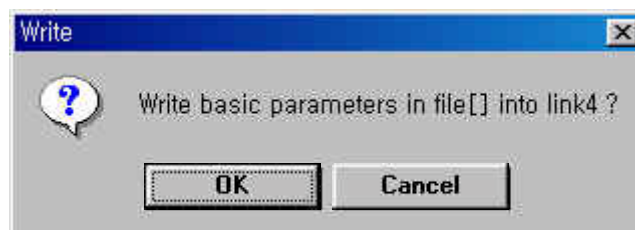

Fig. 8.5 Write confirmation
- ⑧ After basic parameter writing is selected, the dialog box that confirms the operation cancel of Cnet module as shown in [Figure 8.5]. At this time, select OK to download the basic parameter to Cnet module.